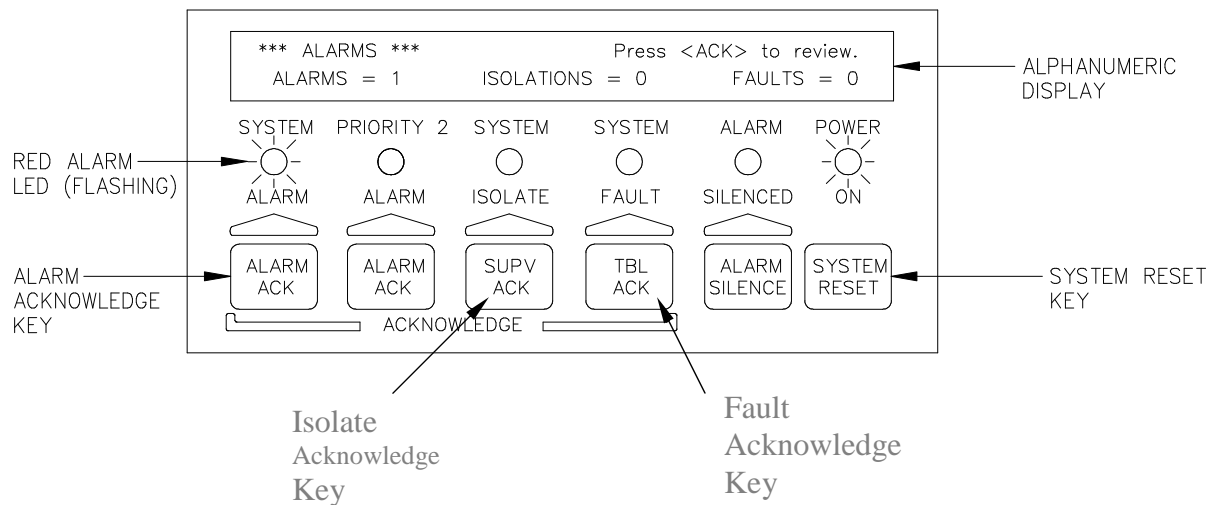
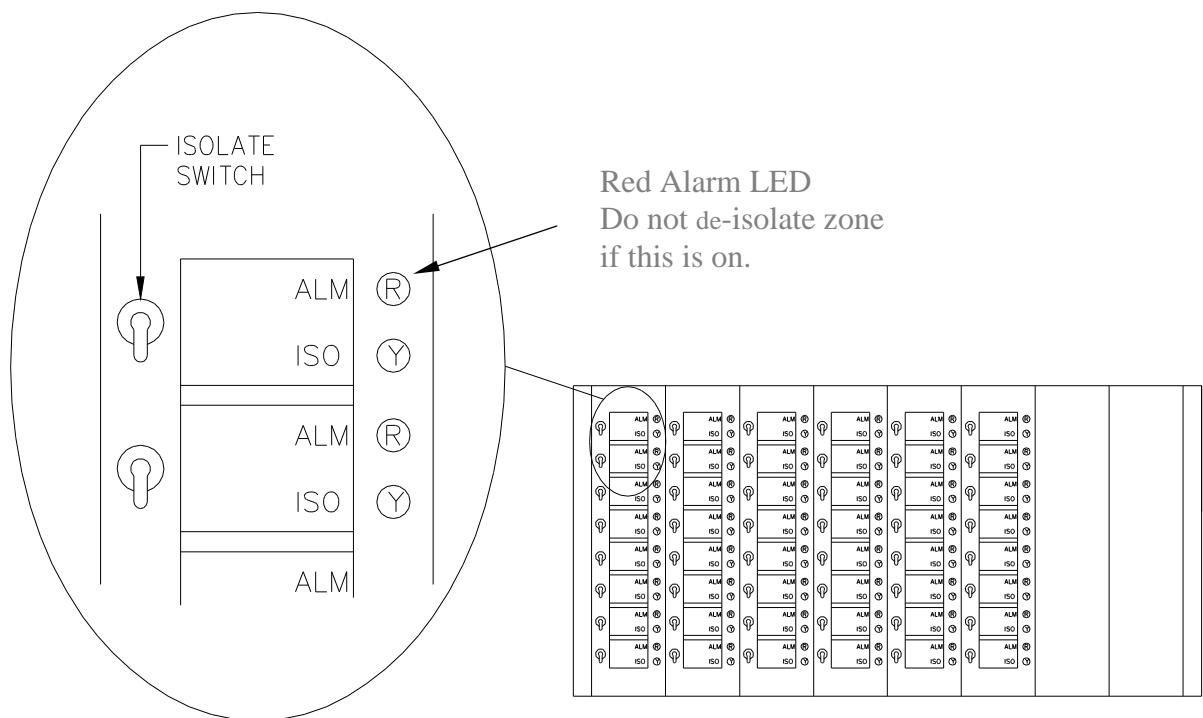

FIGURE 1
FIGURE 2
The Fire Panel consists of two sections – the Keyboard/Display (upper module FIG 1) and the Zone Isolate switches & indicators (lower module FIG 2).
3. A Red LED on the toggle switches (see fig 2) will also be "on" identifying the zone in alarm